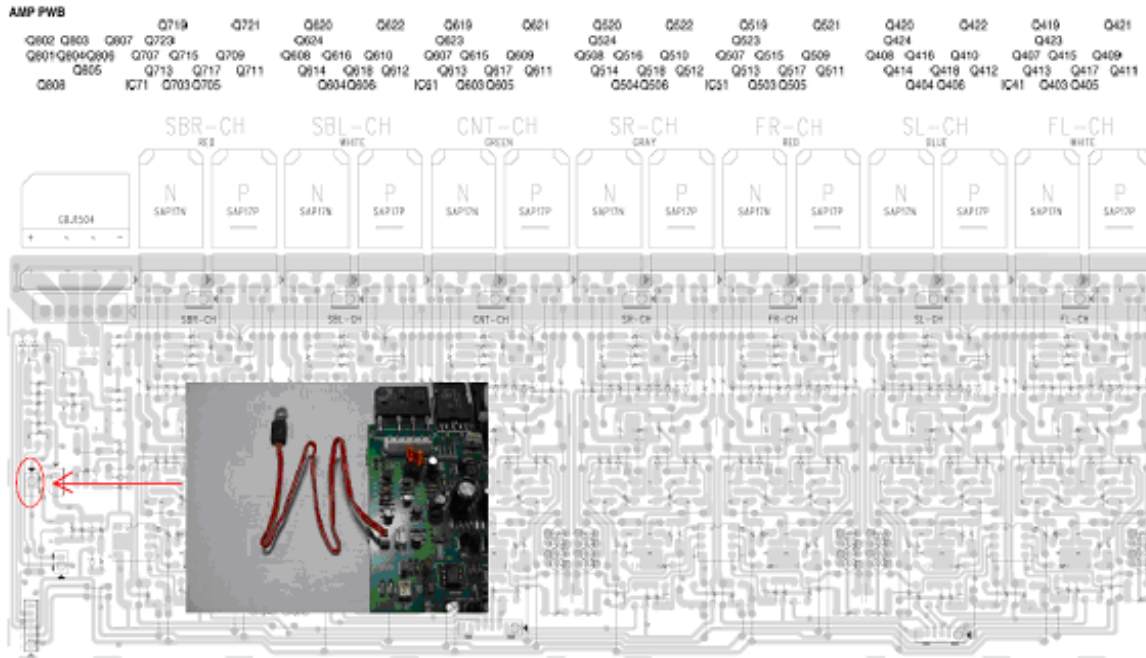

Fig.1
2. Cut the white plastic connector (CN81) off the new Heat Sensor then strip ¼ inch (approx.) of insulation from the end of the lead and tin each end of the lead wire. (Fig. 1)